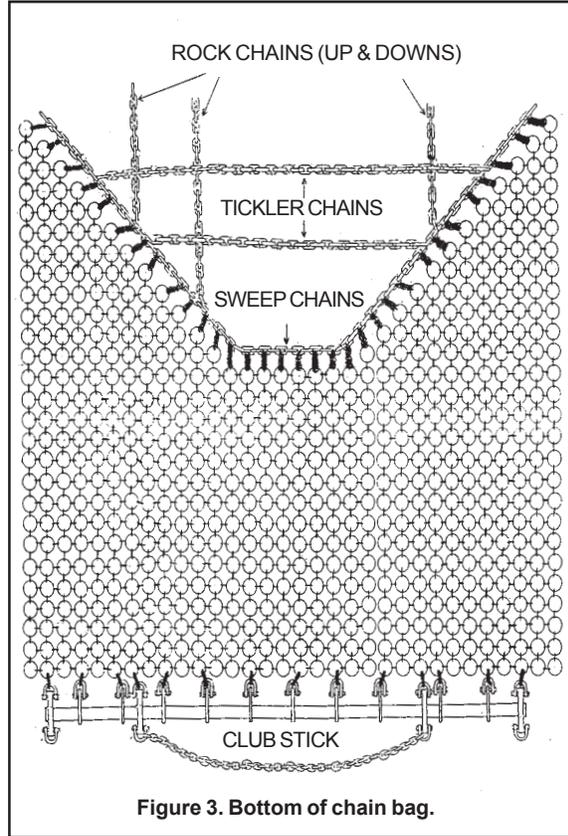

Figure 3. Bottom of chain bag.
**6. ROCK CHAINS USED?:** Record whether rock chains (see Figure 3) are hung perpendicular to the dredge frame by placing an "X" next to the appropriate code:
**8. TICKLER CHAINS USED?:** Record whether tickler chains (see Figure 3) are hung parallel to the dredge frame by placing an "X" next to the appropriate code: